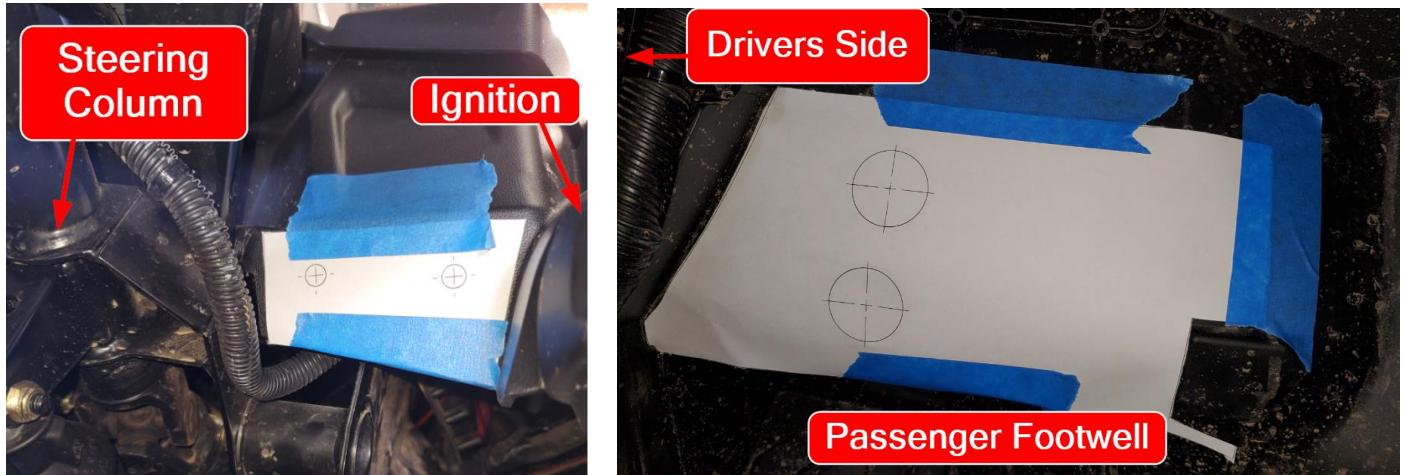

Figure 6
12. Use tape to attach Template 1 to the fire wall of the passengers footwell as shown in **Figure 6**.
13. Attach Template 2 to the drivers side dash directly to the right of the steering wheel as shown in **Figure 6**.